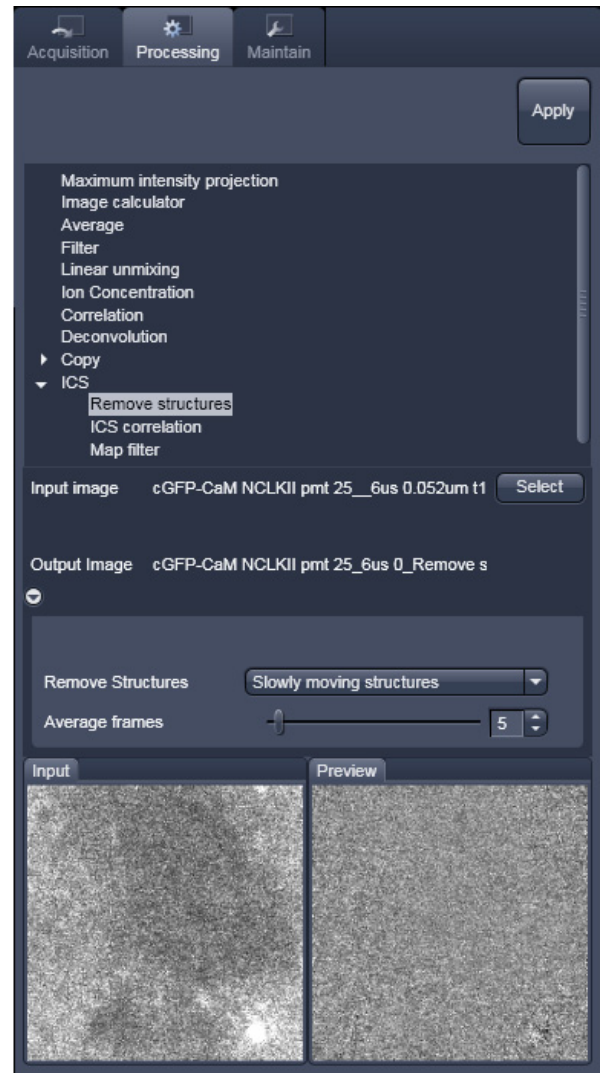

Fig. 120 Remove structures menu
- Activate **Remove structures** in the **ICS** tool. The **Remove structures** menu will appear (Fig. 120).